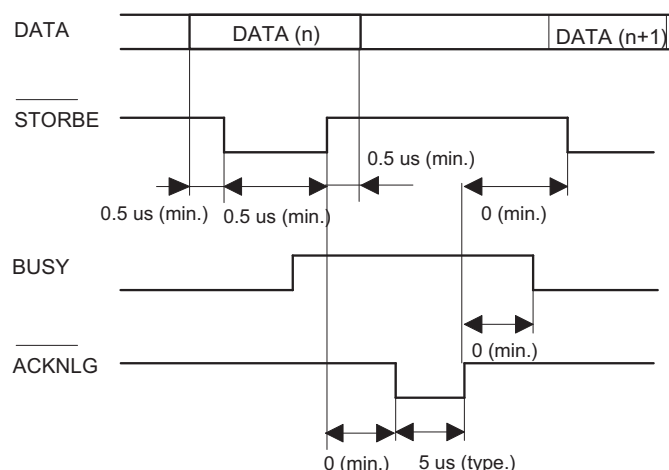

Figure 1-8. Data Transmission Timing
- During data entry (see Figure 1-8. Data Transmission Timing below.)